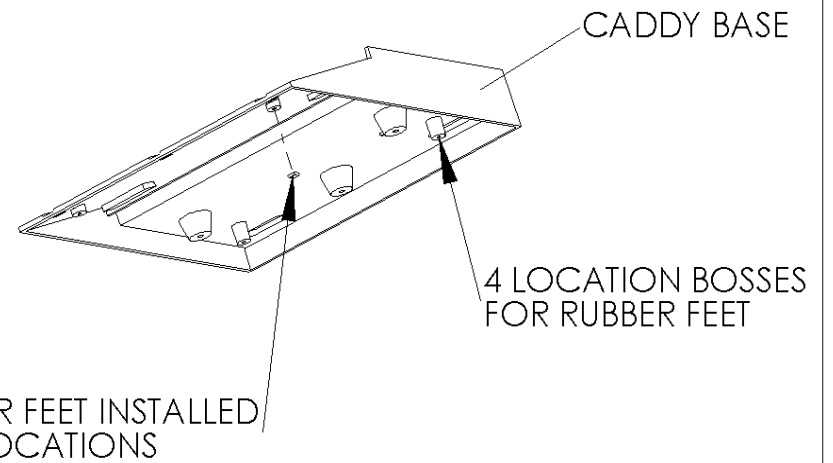

FIG. 3
4. Next, install the Base. There are 4 rubber feet furnished. These may be used to help keep the Base in place on the Cash Drawer or other surface. If required, install 1 rubber foot on each boss on the bottom of the Base. (FIG. 3)